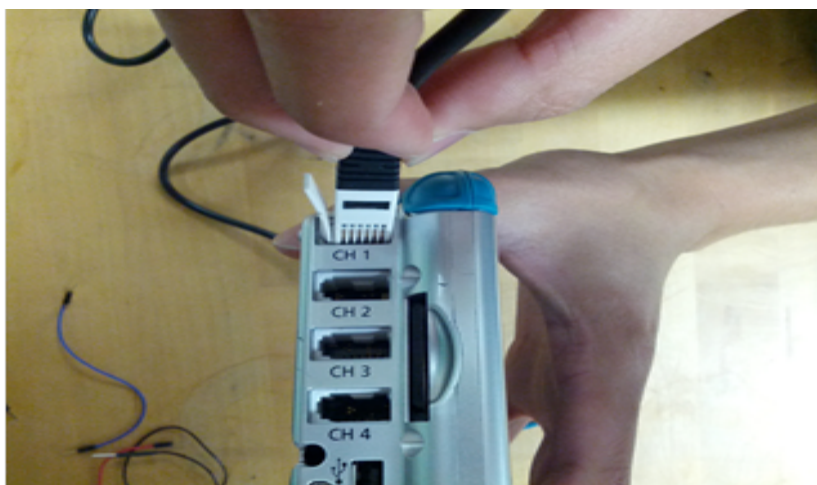

Figure 10 - Procedure to connect LabQuest cable to the LabQuest.
12. Then connect the LabQuest cable to the LabQuest as shown in Fig. 10.